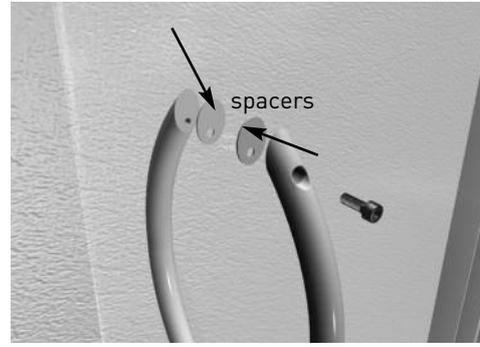

Figure a10
10. Fit the Handles (C) supplied ensuring no aluminium touches the glass of the Hinged Door (B). This is achieved by using the spacers provided (**Figure a10**). The spacers should be placed between the aluminium handles and the glass door on assembly. The Allen Key screw heads should be accessible from the inside of the Hinged Door. Tighten the Allen Key screw heads with the Allen Key (K).